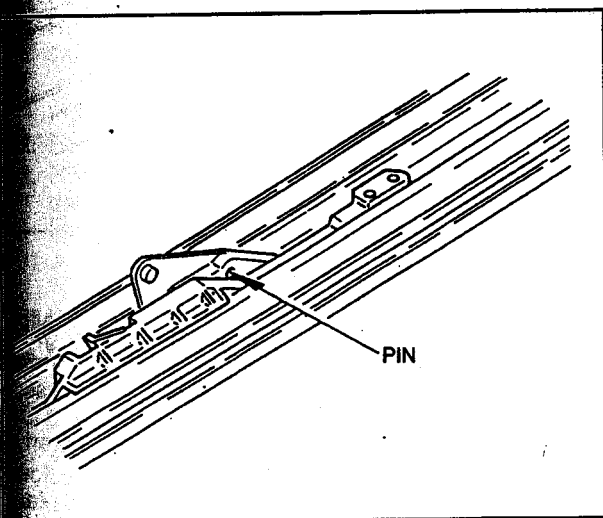

Fig. 9 - Pin Locating Mechanism.
Using the manual crank, close the glass panel (1.5 revolutions) access the 2.5mm brass hole with a pin. Venting the panel, turn crank 0.25 revolution forward. The pin will stop the mechanism at the desired location (Fig. 9).
4. Using the manual crank, close the glass panel (1.5 revolutions) access the 2.5mm brass hole with a pin. Venting the panel, turn crank 0.25 revolution forward. The pin will stop the mechanism at the desired location (Fig. 9).
25. Push mechanisms LH/RH to closed position. Access each 2.5mm brass hole with a pin (pointed object). Slide mechanism forward until pin stops the mechanisms movement at the desired location (Fig. 9).